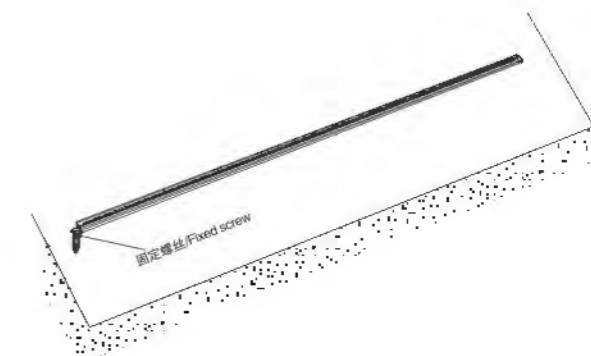

图 2/Picture 2
- 2、将灯体安装到固定件上，如图2所示，并固定牢固。
2. Install the lamp body to fixed pieces, as shown in figure 2, and fixed tightly.